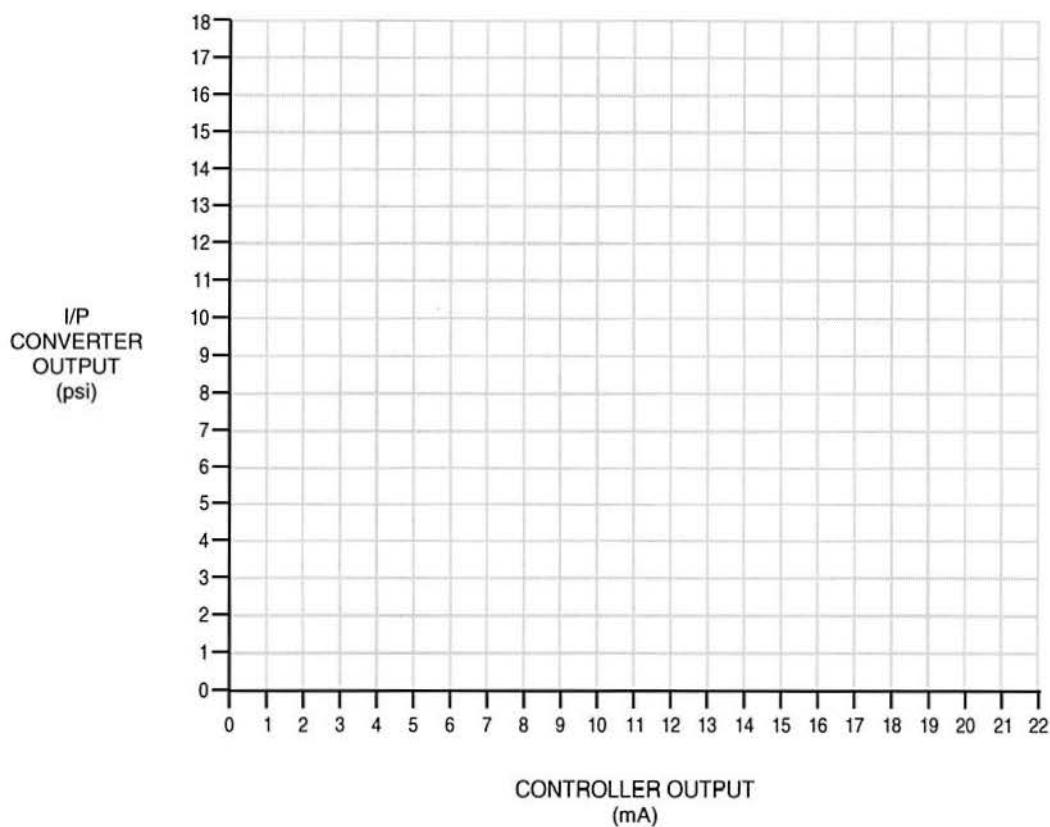

Figure 14. Graph of Controller Output vs. I/P Converter Pressure Output
- B. Use the values you recorded in the table in figure 13 to plot the pressure versus the current on the graph sheet in figure 14. The controller output in mA is scaled along the horizontal axis and the I/P converter output in psi is scaled along the vertical axis.